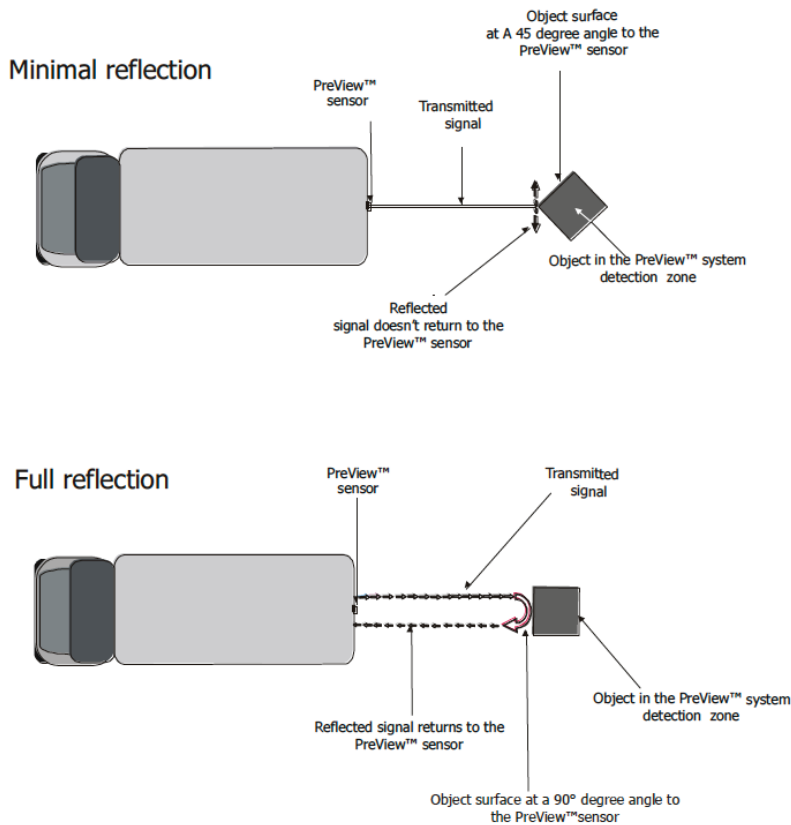

Figure 14. Object Reflection
**Angle** – an object flat side perpendicular to the sensor will reflect more energy than an object at an angle. See Figure 14 for an example of how angle can affect return energy.